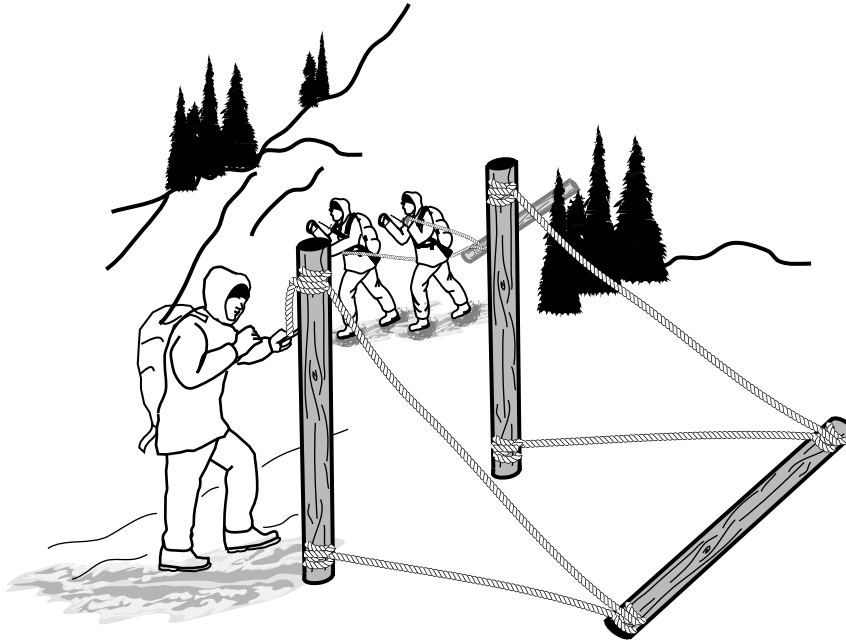

Figure 14-8. Artificial Anchor Wall Construction.
- Connect cordage from the ends of the deadman to the top and bottom of the two original logs (see Figure 14-8).